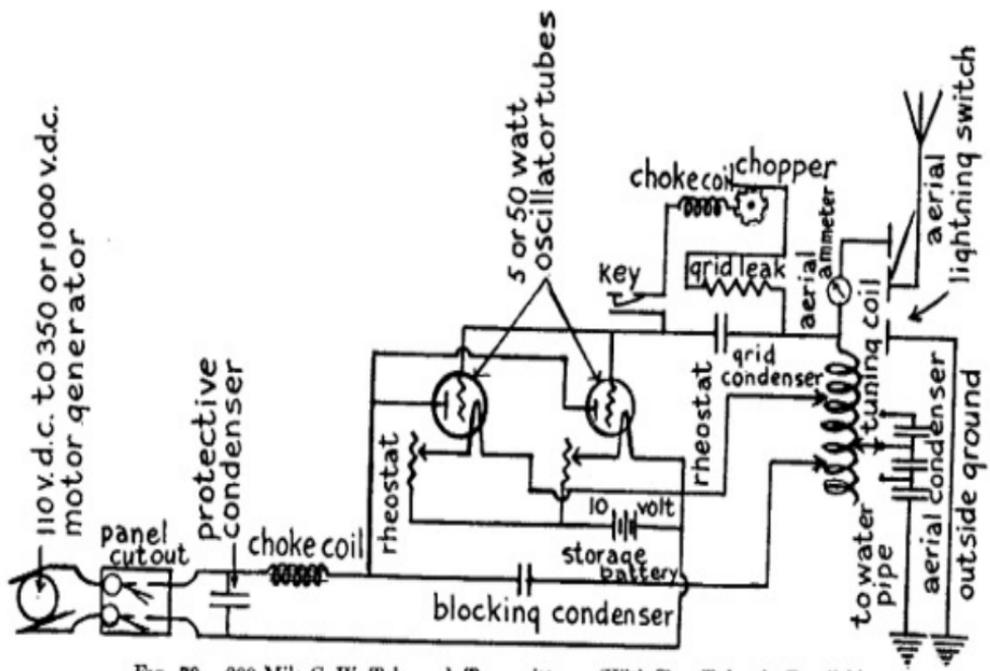

FIG. 79.—200 Mile C. W. Telegraph Transmitter. (With Two Tubes in Parallel.)
lead that goes to the positive pole of the generator. Where two or more oscillator tubes are used only one storage battery is needed, but each filament must have its own rheostat. The wiring diagram *Fig. 79* shows how the two tubes are connected up in parallel.
*A 1000 Mile C. W. Telegraph Transmitter.*--All of the parts of this transmitting set are the same as for the 500 mile transmitter just described except the motor generator and while this develops the same plate potential, *i.e.*, 1,000 volts, it must have an output of 500 watts; it will cost you in the neighborhood of \$175.00. For this long distance transmitter you use two 50 watt oscillator tubes in parallel and all of the parts are connected together exactly the same as for the 200 mile transmitter shown in the wiring diagram in *Fig. 79*.